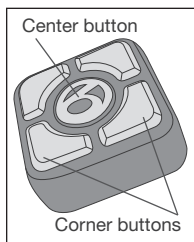

FIGURE 1.3.1
Each time you quick-press a button, you will change the mode and the remote buttons (Figure 1.3.1) will provide an indication of the mode and battery power of the light.
1. Remove the screw from the underside of the bracket, and remove the bracket (Figure 1.3.1).